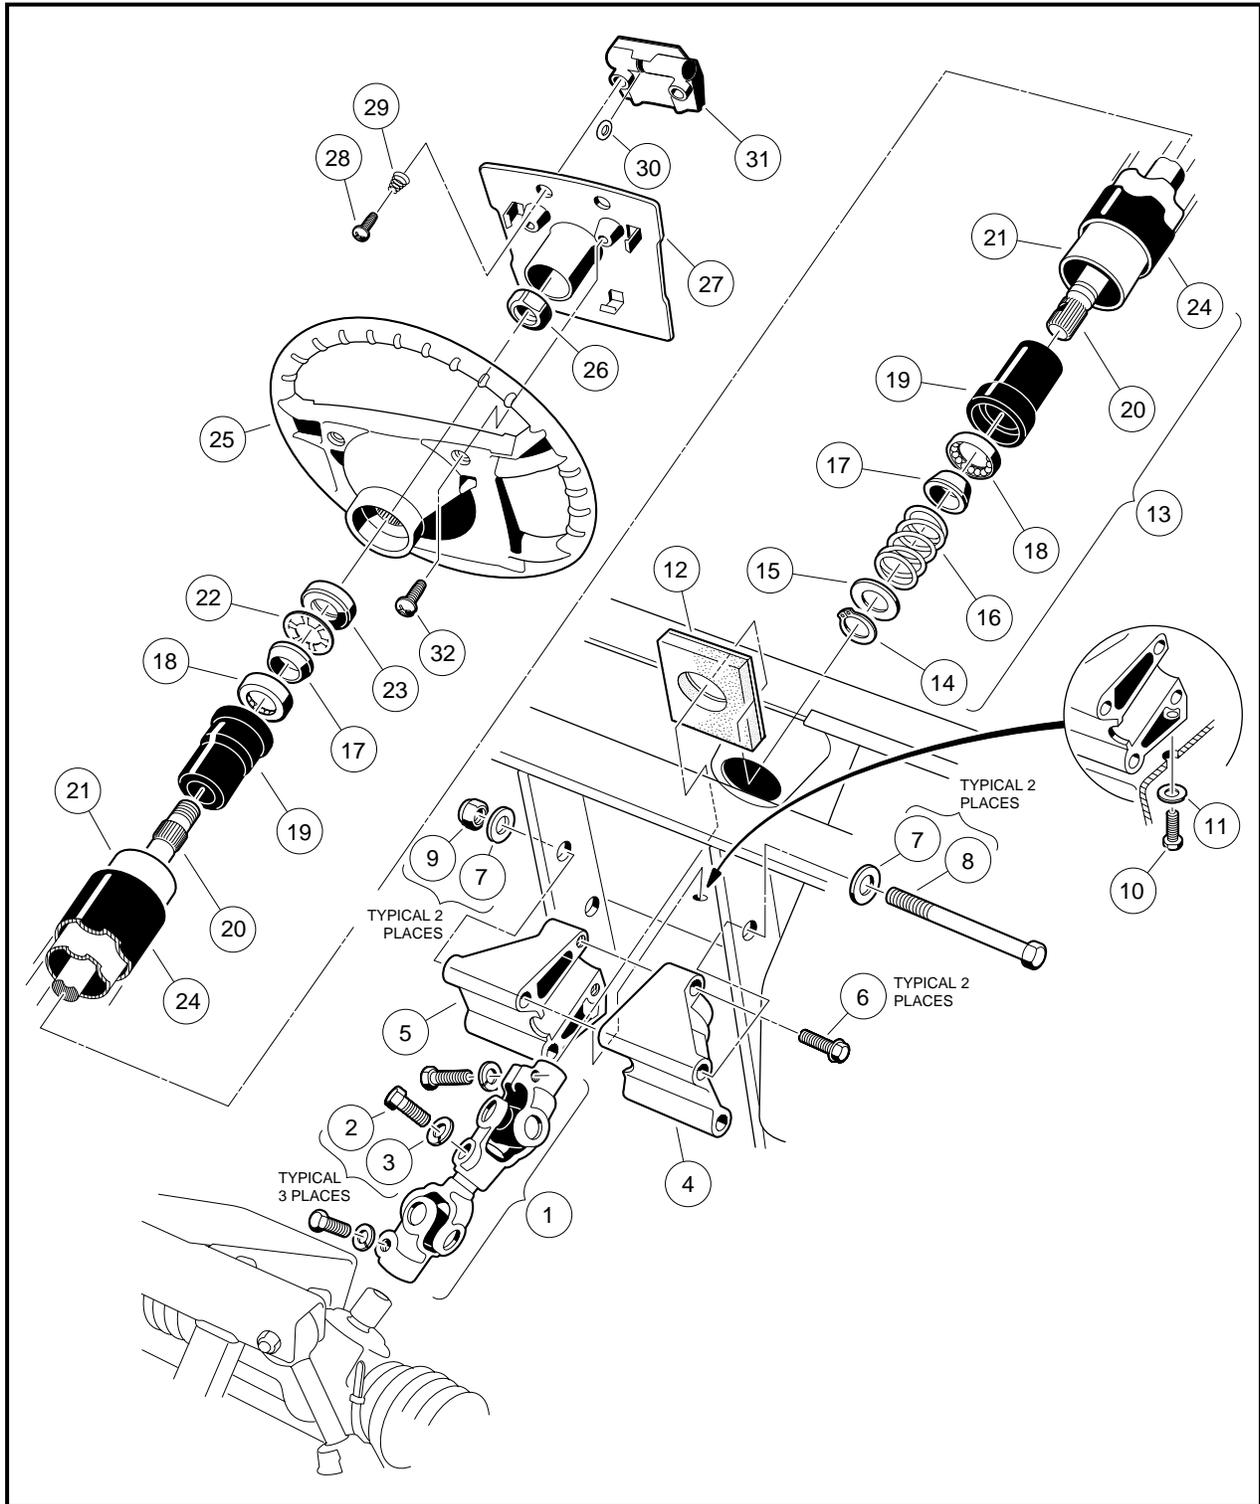

Figure 7-2 Steering Column Assembly and Installation
1. Remove the mounting screws (32) and scorecard plate (27) (**Figure 7-2, Page 7-3**).
2. Match mark steering wheel (25) and steering column (20) so that when the steering wheel is removed it can be placed back in exactly the same position on the steering shaft (**Figure 7-2, Page 7-3**).
3. Loosen steering wheel nut (26) and back it off approximately 1/4 in. (6 mm). Do not remove nut (**Figure 7-2, Page 7-3**).
5. Remove the steering wheel nut (26) from the shaft and then remove the steering wheel (**Figure 7-2, Page 7-3**).
1. Install the steering wheel (25) on the splines of the steering shaft (20), making sure to align the match marks placed on the wheel and steering column in Step 2 above (**Figure 7-2, Page 7-3**).
2. Install the steering wheel nut (26) and tighten it to 14 ft.lb (19 N-m) minimum (**Figure 7-2, Page 7-3**).
3. Install the scorecard plate (27) and scorecard plate mounting screws (**Figure 7-2, Page 7-3**).
5. Remove the upper bolt (2) and lock washer (3) from the universal joint (**Figure 7-2, Page 7-3**).
6. Remove the nuts (9), bolts (8 and 10), and washers (7 and 11) from the steering column mount (4 and 5) (**Figure 7-2, Page 7-3**).
1. Remove screws (6) and mount (4 and 5) from the steering column (**Figure 7-2, Page 7-3**).
2. While supporting the steering shaft (20), remove snap ring (14) from shaft (**Figure 7-2, Page 7-3**).
3. Remove the washer (15), spring (16), and wedge (17) (**Figure 7-2, Page 7-3**).
4. Turn the steering column over and insert a flat blade screwdriver between the seal (23) and the shaft. Pry the seal out of the bearing seat (19) (**Figure 7-2, Page 7-3**).
5. Slide the shaft out of the tube to expose the retaining ring (22). Use pliers to twist the retaining ring until it breaks off, then remove the wedge (17) (**Figure 7-2, Page 7-3**).
7. Use the steering shaft to push the bearing seat (19) out from the opposite end of the steering tube (21) (**Figure 7-2, Page 7-3**).
- Insert a flat blade screwdriver between the bottom of the outer race of the bearing and the bottom lip of the bearing seat (19) and remove the bearing (18) (**Figure 7-2, Page 7-3**).
- Press the seal (23) into the bearing seat (19) until it is flush with the end of the seat (**Figure 7-2, Page 7-3**). When pressing the seal into the seat, set the steering tube on a bench so that all the pressure is exerted on the steering tube and not on the steering shaft.
1. Reinstall mount (4 and 5) onto end of steering column. Tighten bolts (6) to 22 ft.lb (30 N-m) (**Figure 7-2, Page 7-3**).
3. Position the steering column assembly in the vehicle while inserting the steering column shaft into the upper universal joint. The flat portion of the steering shaft spline must be aligned with the bolt hole in the universal joint before sliding the spline into the universal joint. While holding the steering column in place, attach it to the frame using bolts (8), washers (7) and nuts (9) (**Figure 7-2, Page 7-3**). Thread the nuts onto the bolts but do not tighten them.
4. Reinstall washer (11) and screw (10). Torque to 22 ft.lb (30 N-m) (**Figure 7-2, Page 7-3**).
5. Install the bolt (2) and lock washer (3) on the upper universal joint and tighten with fingers only.
6. Tighten the two nuts (9) to 18 ft.lb (24.4 N-m) (**Figure 7-2, Page 7-3**).
7. Tighten the bolt (2) on the upper universal joint to 15 ft.lb (20.3 N-m) (**Figure 7-2, Page 7-3**).